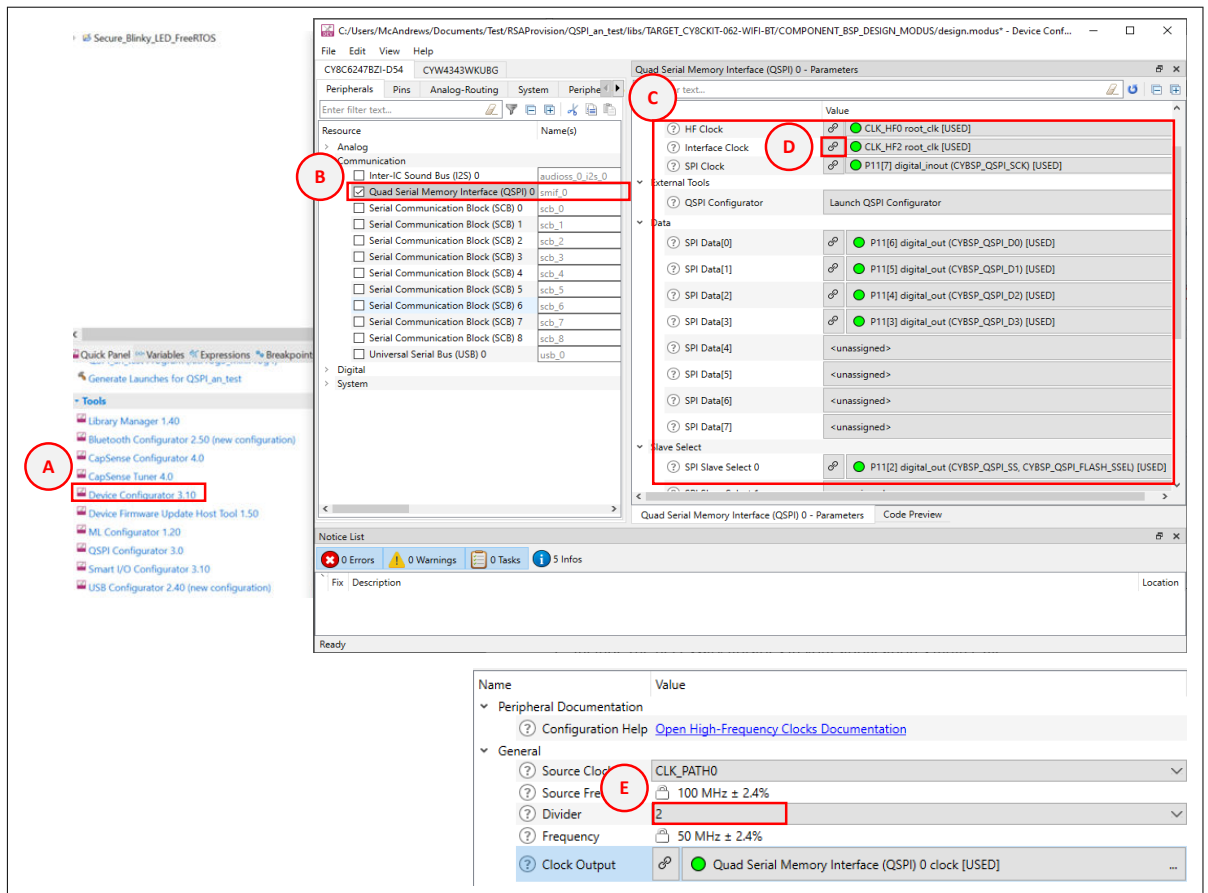

Figure 2 Steps to configure the QSPI block
1. Enable the QSPI hardware using the device configurator. Figure 2 shows an example configuration suitable for use with any PSoC™ 6 MCU kit that has an external flash device.
- c. Configure the **QSPI** block as shown in Figure 2